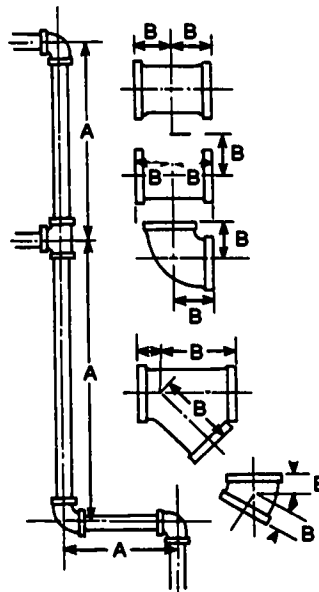

Fig 1-12. Determining the length of pipe in runs.
Each size pipe should be threaded into a fitting only for a certain distance. Center-to-center measurements are probably the most frequently used in determining the length of a pipe to be installed. Figure 1-12 shows a run of pipe with some center-to-center measurements marked A. The center-to-center measurement is the distance from the center of
Figure 1-12 also shows some fittings which are drawn so that you can see the distance from the center of the fitting to one edge (B). When measuring pipe, consider the measurements of fittings at both ends of the pipe. Finally, figure 1-12 shows different pipe sizes and the distance that each pipe size is screwed into the fitting. The procedure to follow in determining the length of pipe that is needed between two fittings is as follows (refer to fig 1-12):
- Step 3. Determine from the chart in figure 1-12 the distance the pipe you are using should be screwed into the fitting(s). Be sure to consider both ends. All you have to do now is add this distance to the measurement that you determined using steps 1 and 2. You now have the length of pipe needed for the installation.
Let us try a few sample calculations. Referring to A in figure 1-12, if the length of A is 2 feet and the B dimension is 1 inch and we are using 3/4 inch pipe, what is the length of pipe required? Work out your answer and then read on for an explanation. Answer: first, change the 2 feet to 24 inches. Second, subtract the B dimension (1 inch) from your A dimension (two ends to be screwed into fittings makes the B dimension a total of 2 inches) or 24 inches minus 2 inches = 22 inches. You are using 3/4 inch pipe and you know from figure 1-12 that the depth that 3/4 inch pipe is screwed into the fitting is 1/2 inch. (Two ends of pipe make this depth a total of 1 inch.) Now all that you have to do is add this 1 inch that the pipe is screwed into the fitting to the 22 inches (22 inches + 1 inch = 23 inches) and you have the length of pipe needed for this installation.